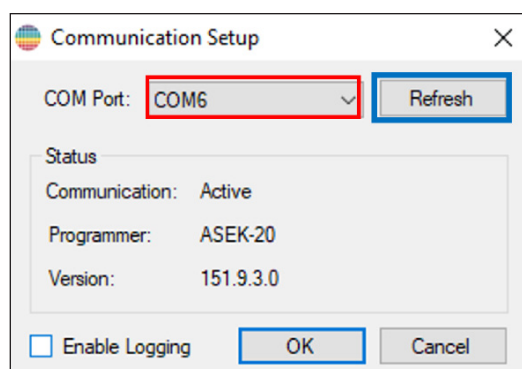

Figure 13: Communication Setup dialog box
To connect the ASEK-20, click “Setup” → “Communication Setup”. The dialog box in Figure 13 will appear. Click the correct COM# in the pulldown menu next to COM Port. If the COM port is unknown, do the following:
2. Click “Refresh” in the “Communication Setup” dialog window as highlighted in blue in Figure 13.